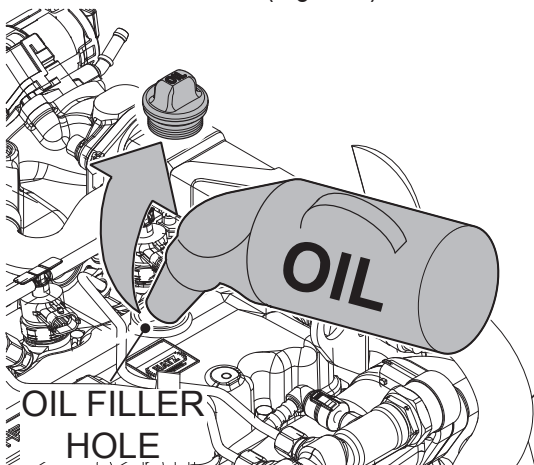
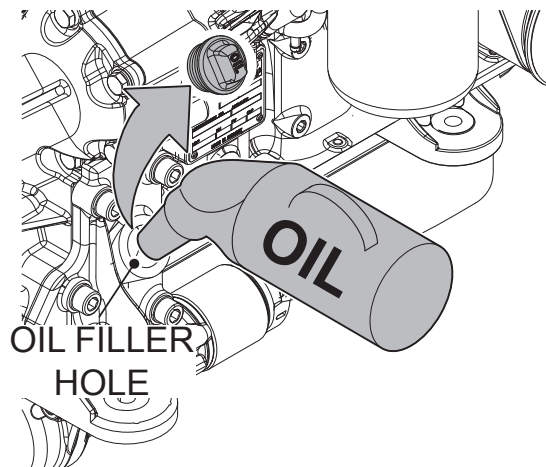

Figure 8. Engine Oil Filler Hole (Top)
Figure 9. Engine Oil Filler Hole (Bottom)
5. If the oil level is close to the "min." mark, add engine oil to the "max." mark through the oil filler hole. Depending on accessibility, use the top oil filler hole (Figure 8) or the bottom oil filler hole (Figure 9).